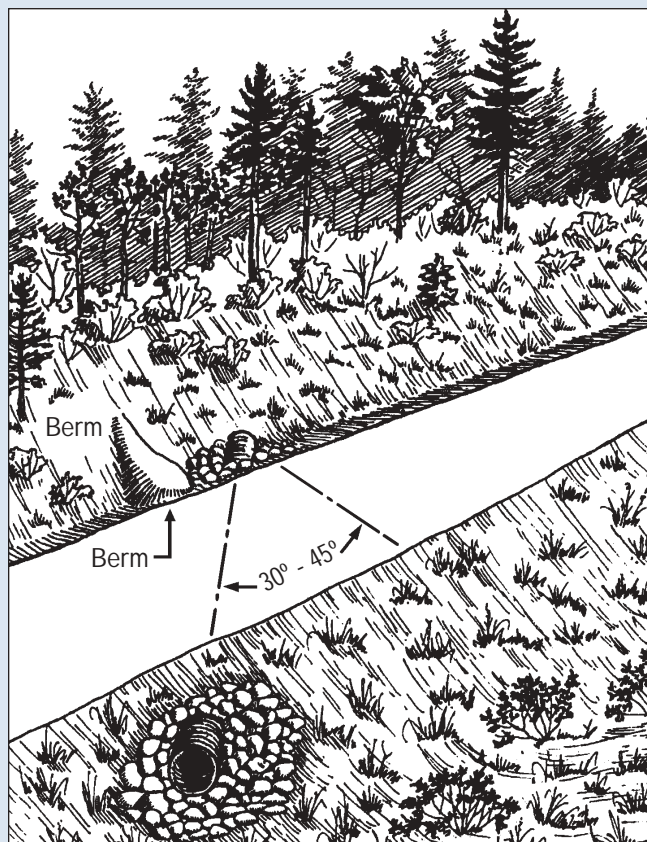

Figure 11-21: Cross-drain culvert.
- ✓ Install cross-drain pipe culverts at grades at least two percent more than the ditch grade, and angled 30° to 45° to improve inlet efficiency (see Figure 11-21).